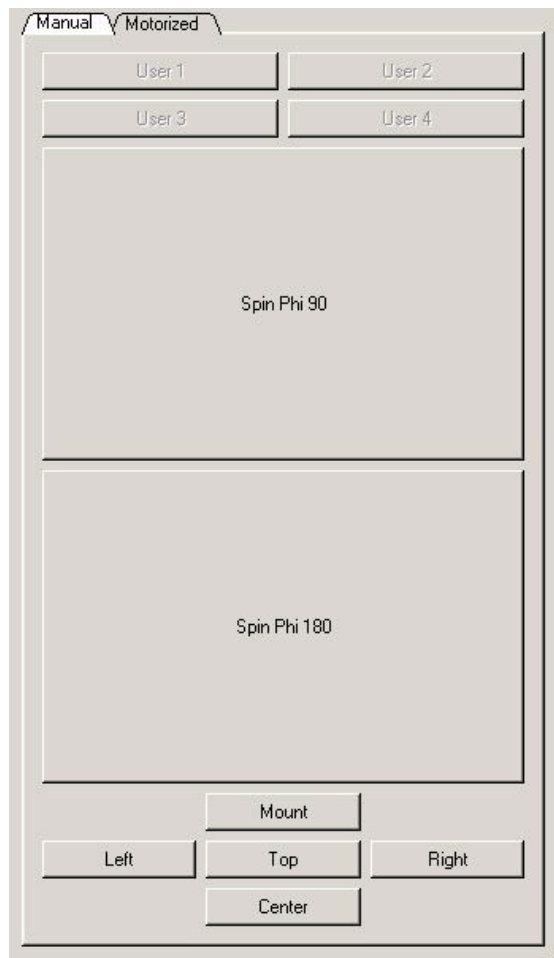
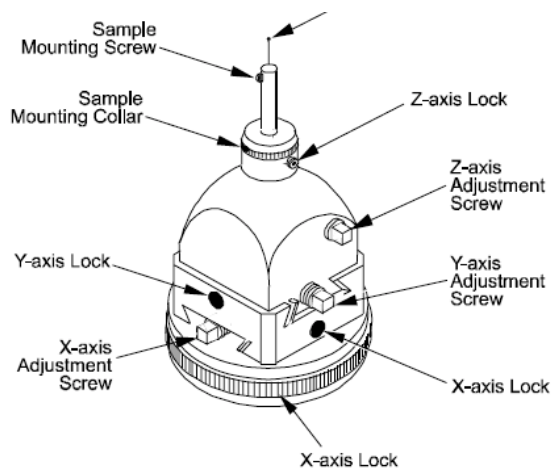

Figure 9
Figure 11
- 12) On the window coming up (Figure 9), click **Center** button at the bottom. Goniometer will drive into a position easy for mounting crystals.
- 16) Use the goniometer wrench to quickly adjust Y and Z screws (Figure 11) on the goniometer head so the crystal is roughly sit in the center of beam. Click **Spin Phi 180** (Figure 9) to make sure crystal remains same position after rotation. If not, adjust screws for half of the difference. Repeat the previous steps until you are satisfied.
- 17) Click **Spin Phi 90** (Figure 9) to adjust X-axis screw (Figure 11). Click **Spin Phi 180** (Figure 9) to make sure crystal remains same position after rotation. If not, adjust screws for half of the difference. Repeat the previous steps until you are satisfied.
- 18) Click **Left** (Figure 9) and then **Right** to check the height. If not the same adjust Z-axis screw for half of the difference (Figure 11). Click **Spin Phi 180** (Figure 9) and repeat the previous steps until you are satisfied.